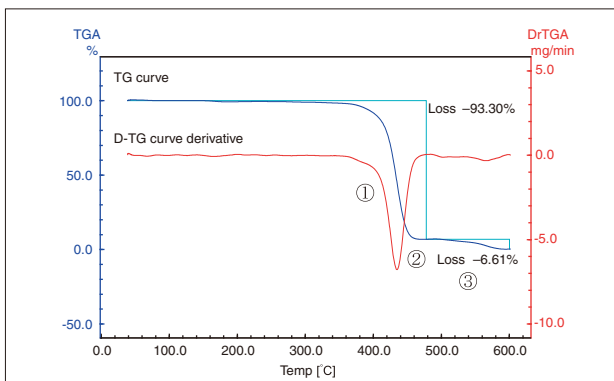
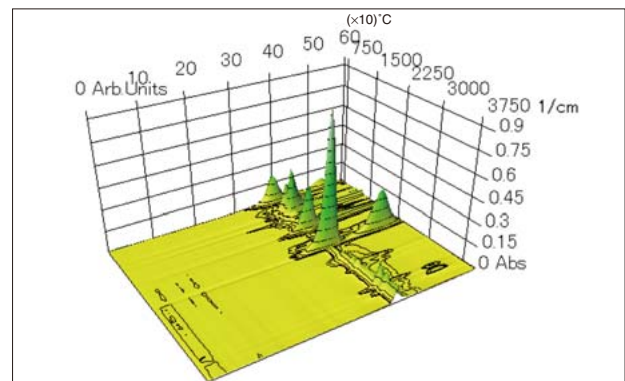
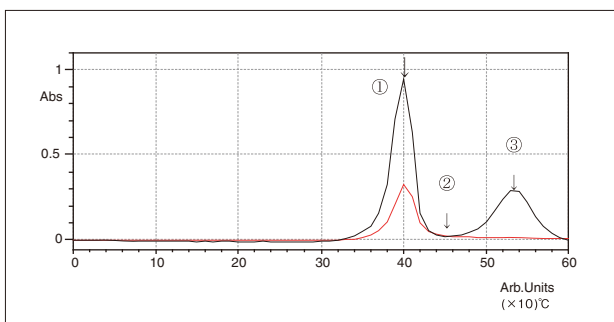
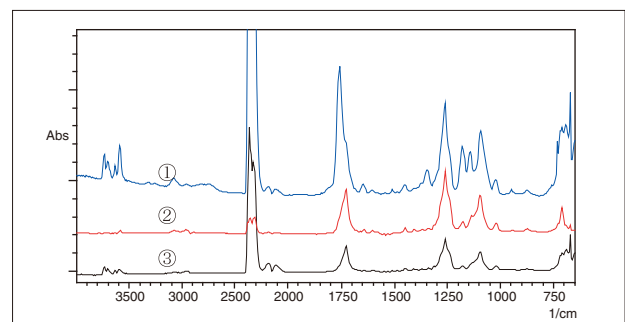

Fig.6 TG and D-TG Curves of PET in Air
Fig.7 3D Display of IR Spectra
Fig.8 IR Chromatograms Extracted from Fig.7
Fig.9 IR Spectra Extracted from Fig.8
Fig. 6 shows the TG and TG derivative curves when PET is heated in air at 20 °C/min. Two peaks appear in the D-TG curve, and the absorption peaks associated with these can be seen in the 3-dimensional IR spectra of Fig. 7. In addition, Fig. 8 shows IR chromatograms at the absorption wavenumbers 2361 cm⁻¹ and 1760 cm⁻¹, corresponding to CO₂ and the carbonyl group, respectively. The spectra extracted from the arrow-marked sites ① and ② of Fig. 8 are shown in Fig. 9. From analysis of these IR spectra, besides the generation of CO₂ in two separate instances, the rapid generation of benzoic acid in the first half and the gradual generation of an ester compound are also observed.